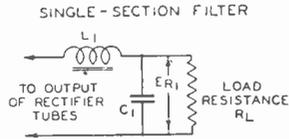

Fig. 46—Curves for choice of filter values for (1) the first section of a double-section filter, or (2) a single-section filter.
#### SINGLE-SECTION FILTER (FIG. 46)
**Procedure:** ERMS is equal to  $3180 \times 1.11$ , or 3535 volts (see Summary of Rectifier Circuit Conditions, page 32). RL is equal to  $3180/0.5$  ampere, or 6360 ohms. From Fig. 46, RL=6360 lies below curve ERMS=3535 (as shown for the 866-A/866). Hence, any combination of inductance and capacitance along the curve ER1=5% and to the left of the curve ERMS=3535 will satisfy the requirements. A suitable combination is a filter section employing a 25-henry choke and a 1- $\mu$ f condenser.